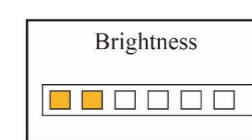

Figure 4.10A Brightness setup
- Brightness: To set the brightness of backlight, 6 levels for optional, the factory default is level 3, as shown in figure 4.10A.